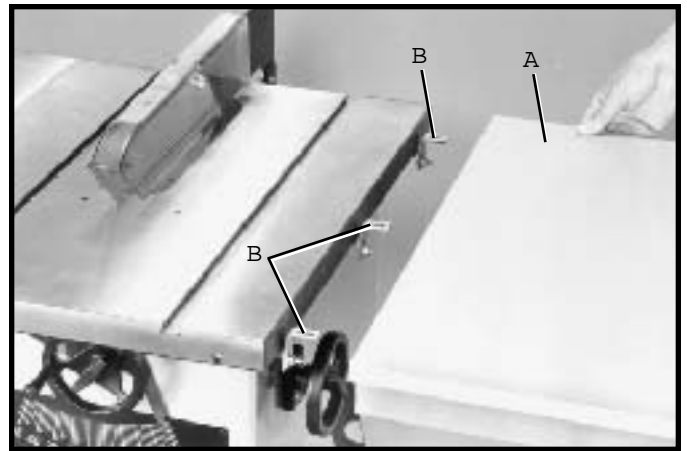

Fig. 51
1 Position table board (A) Fig. 51, onto angle brackets (B).